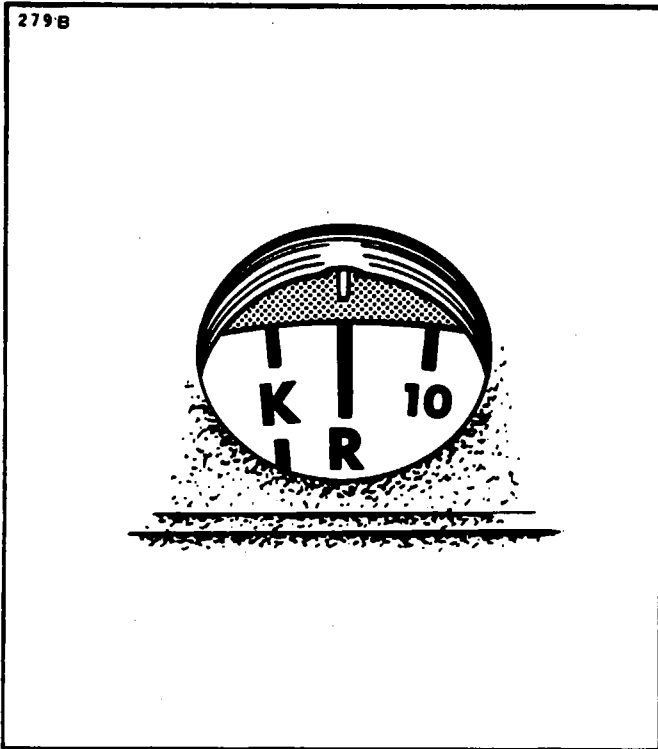

Figure 8-20. Timing Mark on Rotor Aligned with Pointer (Right Hand Rotation)
f. Remove the plug or adapter from the distributor inspection windows at either end of the magneto housing. (Refer to Figure 8-18.) Also remove the plug from the "E" gap inspection window on the data plate side of the magneto housing. (Refer to Figure 8-20.)